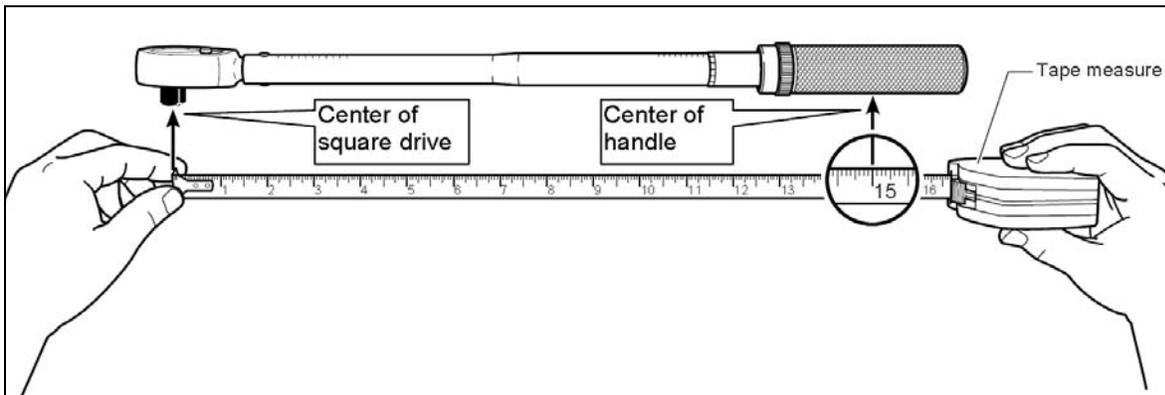

Figure 24
- Measure the length of your torque wrench between the center of the handle and the center of the square drive as shown in Figure 24, then go to **Table A** on the next page to get the torque setting.